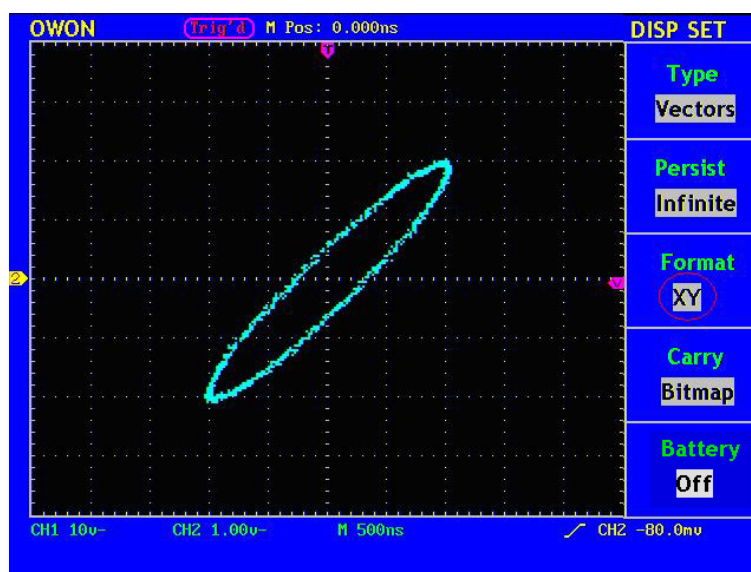

Fig.43 Display in XY Format
Press the **ACQUIRE** button and the menu is displayed in the screen, shown as Fig.43.
3. Press **F1** to set Vectors as type, **F2** to set Infinite for persist and **F3** to set XY as Format as shown as Fig.43